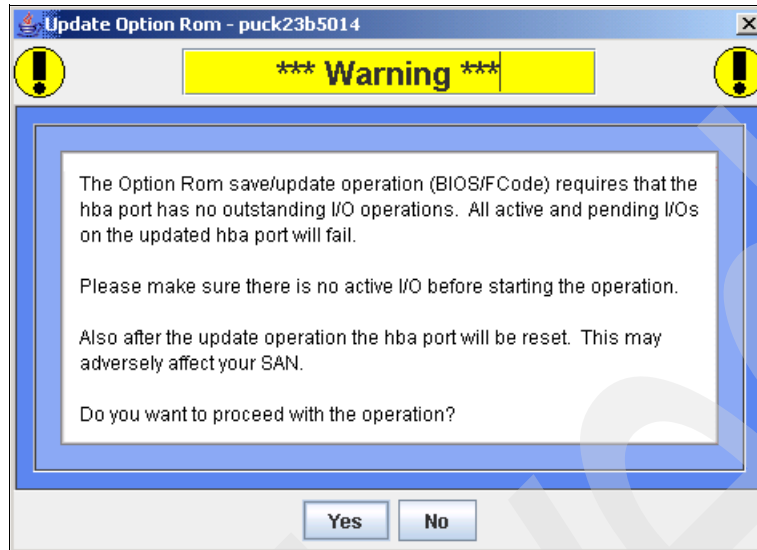

Figure 7-32 Qlogic SANsurfer BIOS update
3. You are then presented with a warning, as shown in Figure 7-32. Make sure that you have suspended all I/O to the adapter before you proceed.